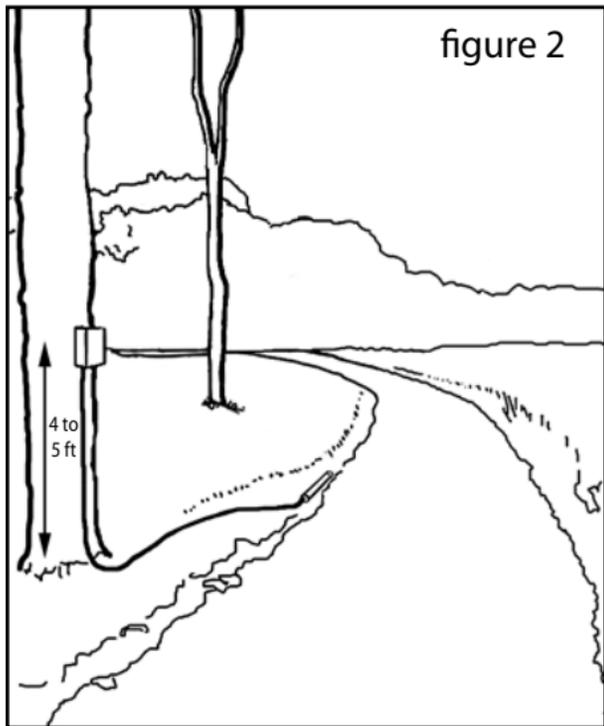

figure 2
1. The probe will detect vehicles up to about 10 feet away. Lay the probe beside the driveway, then test the unit by having a car drive by. Once the unit is tested, the probe can be buried. The probe should be buried to a depth of 12 inches, laying parallel to the drive. If your driveway is one car wide, bury the probe right next to the drive (figure 2). If your driveway is two or more cars wide, bury the probe in the middle of the drive.